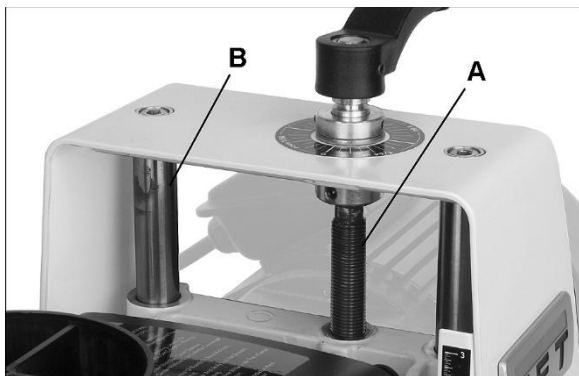

Figure 10-1
- Lubricate elevating leadscrew (A, Figure 10-1) as needed.
- Keep guide bars clean (B, Figure 10-1).